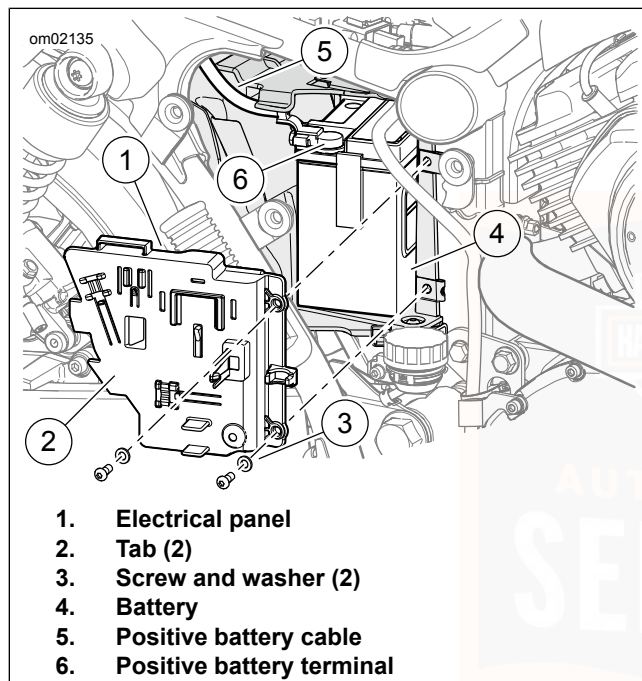

Figure 47. Battery
8. See Figure 47. Remove electrical panel.
- a. Remove screws (3).
- b. Carefully pull electrical panel (1) away from battery.
10. See Figure 47. Disconnect positive battery cable (5) from battery.
3. See Figure 47. Install battery (4) in battery box.
4. Connect the positive battery cable (5) to the positive battery terminal (6).
6. See Figure 47. Install electrical panel.
7. Verify electrical panel tabs (2) are inserted into slots.
8. Install screws (3).